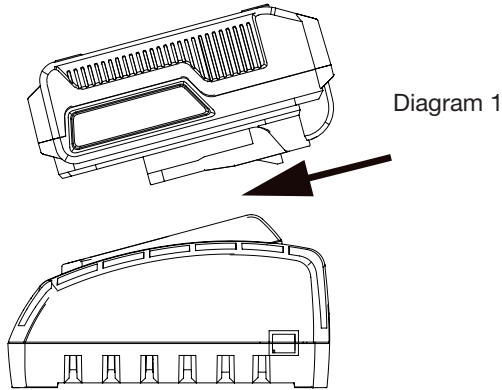

Fig. 1
- b) Insert the battery (1) into the charger, until it clicks into the locked position (Fig. 1).
- c) Frequently monitor the charger and battery (1) while charging.
- e) Remove the battery (1) from the charger when it is fully charged and unplug the charger from the mains.
- f) To remove the battery (1) from the charger, press the release button (2) on the battery (1) and push the battery (1) out.
- g) Let the battery (1) cool down before use.